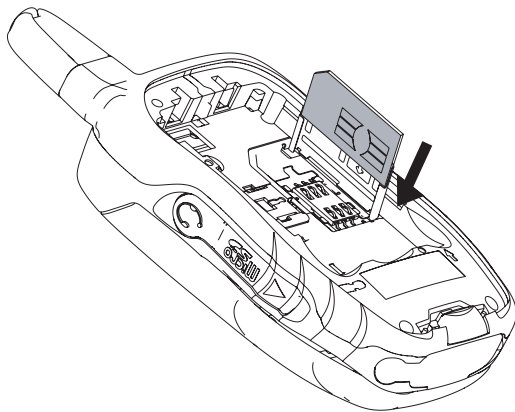

Figure 1-4. Inserting a SIM Card
To insert a SIM card (Figure 1-4):
2. Carefully slide the SIM card into the holder (see Figure 1-4). Position SIM card as shown.